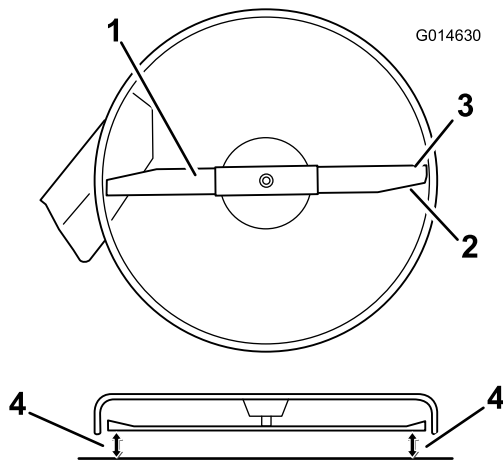

Figure 49
4. Carefully rotate the blade(s) so that they are all side to side (Figure 49)
5. Measure between the outside cutting edges and the flat surface (Figure 49). If both measurements are not within 5 mm (3/16 inch), an adjustment is required; continue with this procedure.